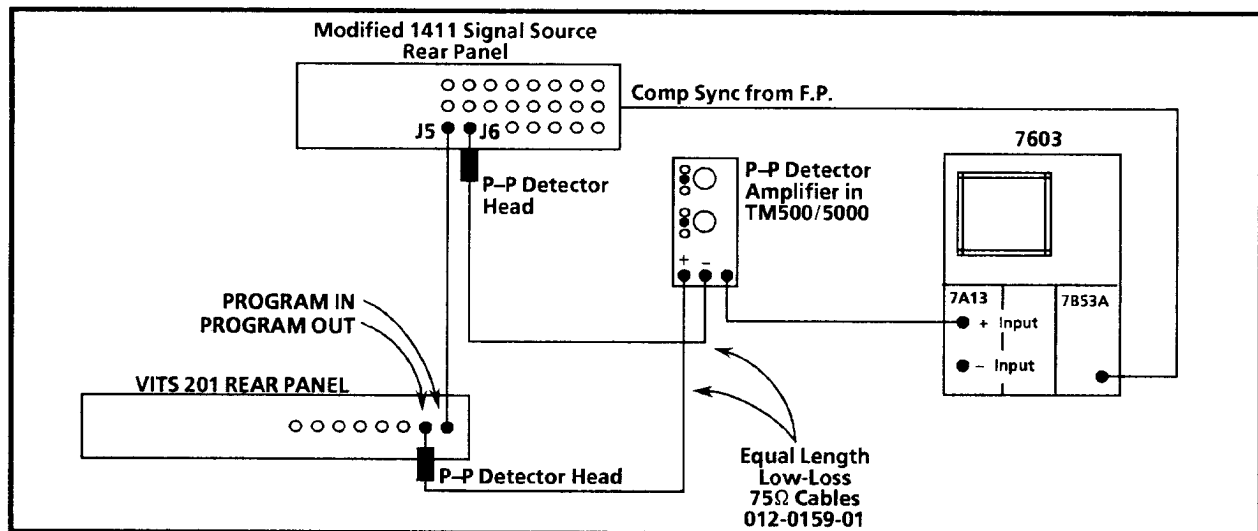

Figure 6-4. Equipment setup to check Program Channel Frequency Response.
- a. Connect the equipment as shown in Figure 6-4.
- a. Connect the equipment as shown in Figure 6-4, except move the 1411 sweep from the VITS 201 PROGRAM IN to the EXTERNAL 1 input.